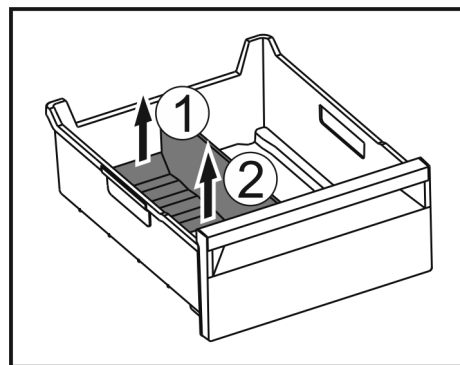

Fig. 131
- Lift the rear part of the ice compartment divider. Fig. 131 (1)
- Remove the ice compartment divider upwards. Fig. 131 (2)